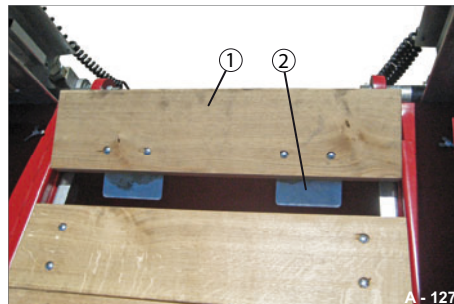

Fig. 119 Opening arm cavity
- Pull out the first wooden plank (Fig. 119/1).
- ▶ Insert the first wooden plank last (see Fig. 119).